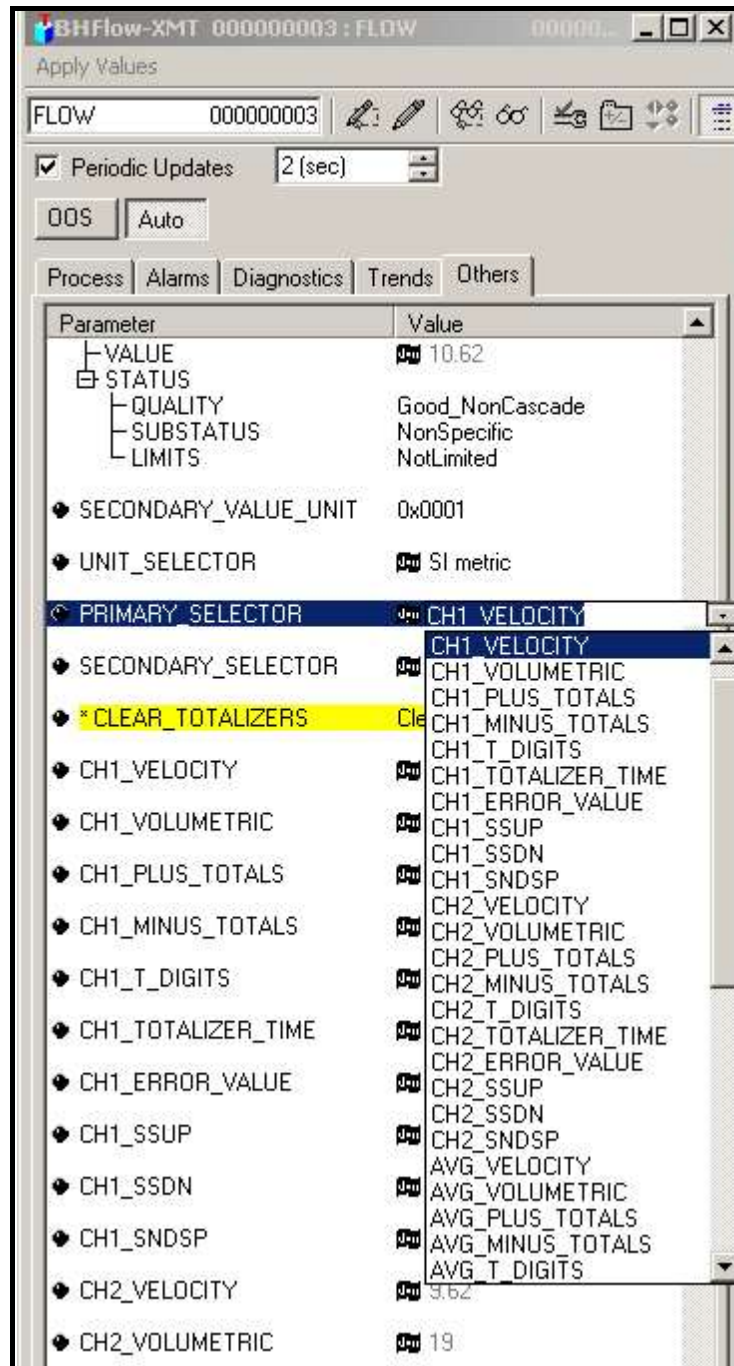

Figure D-2: Primary Selector Drop Down List
2. Select the Others tab and open the drop down list for the PRIMARY_SELECTOR and SECONDARY_SELECTOR (refer to Figure D-2 on page D-3).
3. Choose the unit from the list (see Figure D-2 on page D-3).